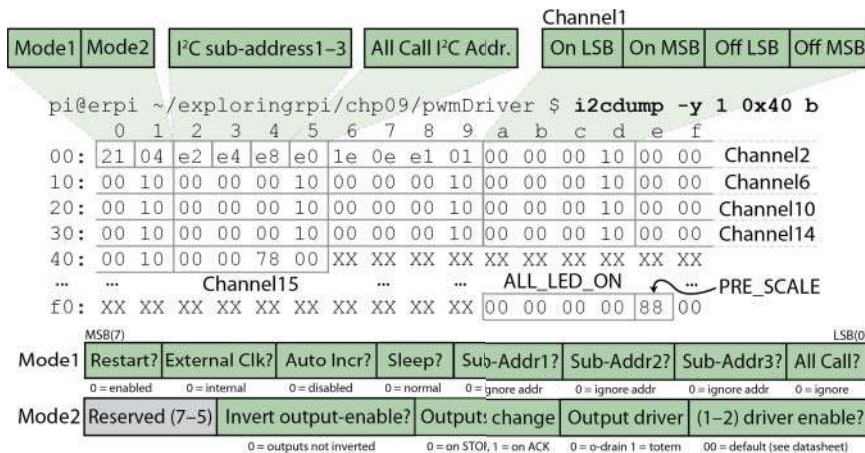

Figure 9-10: Registers for the PCA9685 16-channel 12-bit PWM controller
the possibility of controlling up to 992 servo motors using a single bus on the RPi! Figure 9-10 captures the output that results from a call to `i2cdump` on the device address, which is at I²C bus address 0x40 by default.
Figure 9-10 also illustrates the registers that can be used to control the output of the PCA9685. There are two mode registers (0x00 and 0x01) that control the behavior of the device, using bit patterns that are described at the bottom of Figure 9-10. The mode registers are followed by four address registers (0x02–0x05), which if enabled by Mode1 allow multiple PCA9685 modules to respond to a single “virtual” I²C address, because if they were a single device. For example, you could potentially control all the servos that are attached to Channel0 on multiple modules using a single call to a single sub-address that is enabled on each of the boards. Writing to the All Call I²C address (0x70) affects all the modules on the bus unless they have set the Mode1 bit so as to ignore write requests to the All Call address.
You may also need to set the Mode1 state to enable the outputs (see the bottom of Figure 9-10). For example, to set Mode1 to disable restart (1), use the internal clock (0), enable auto increment (1), disable sleep (0), disable all sub-addresses (000), and enable All Call (1), the 0x00 register should be set to 10100001, which is 0xA1 in hexadecimal:
This code performs the same function as was just performed manually using the Linux `i2c-tools` calls. Rather than maintain a full list of registers, the code offsets the address by four times the desired output number. For example, to set the “turn on” LSB for Channel5, the calculation is $\text{LED0\_ON\_L} + (5 \times 4) = 0x06 + 20_{10} = 0x1A$. You can confirm this result in Figure 9-10 by locating the first register address of Channel5.